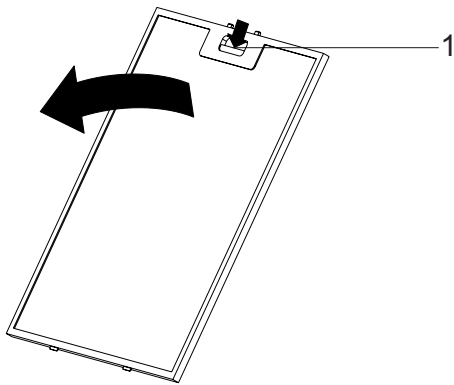

Fig. 4
- Press the aluminium filter tab (1) and pull the aluminium filter to the direction of the arrow (Fig. 4).